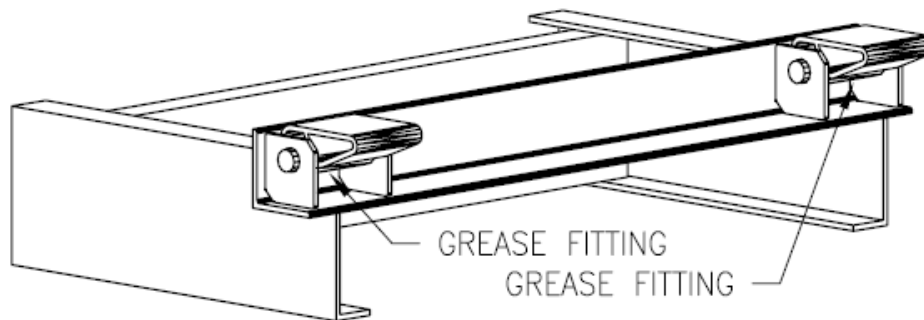

FIGURE 3
3. Position the rear hinge angle in the notch cut in Step 2. The rear hinge angle is 37 3/16" wide and should be centered side to side in the notch as illustrated in Figure 3. Weld the rear hinge angle to each of the truck chassis frame rails.